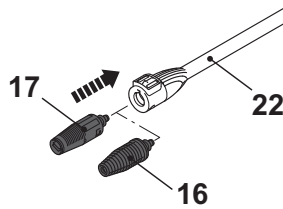

Fig. 12
- > Always use the vario nozzle (17) with the extension lance (22) attached (Fig. 12).